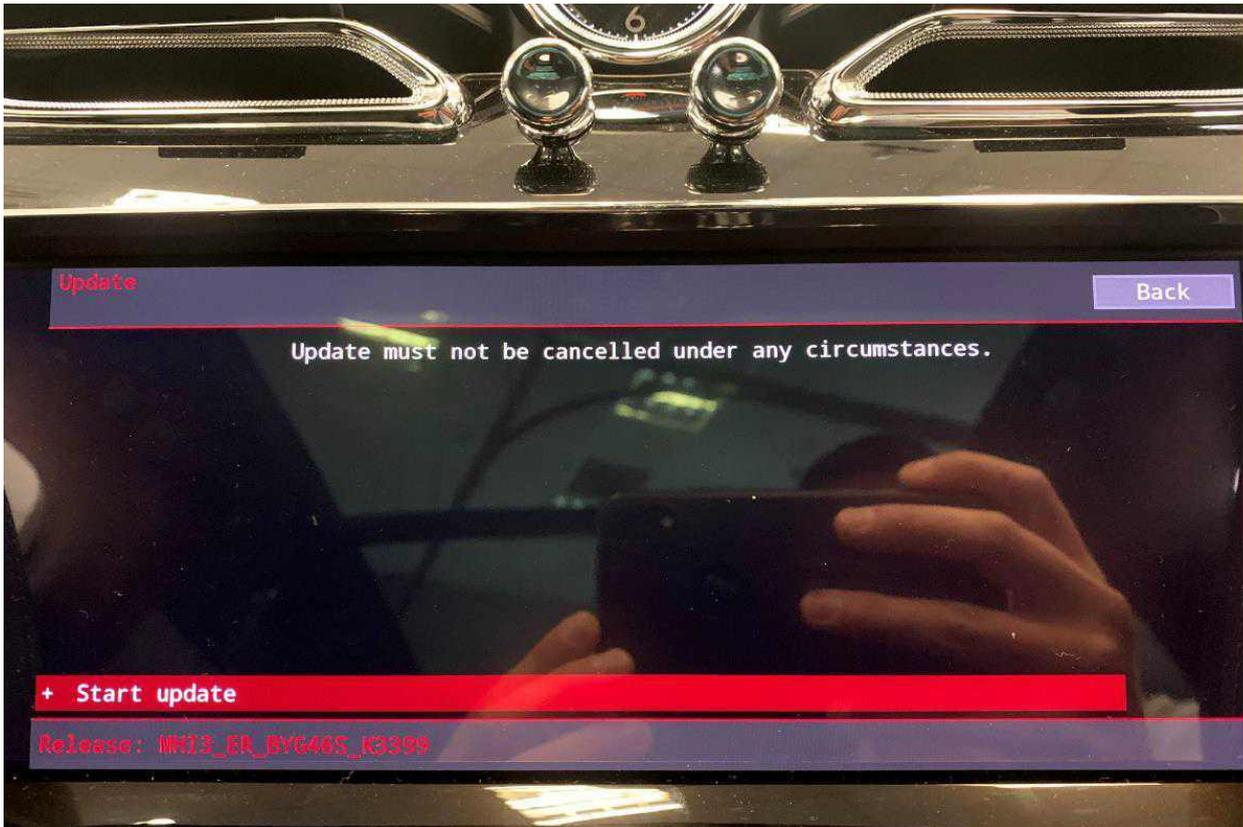

Figure 8
- Select 'Start update' again. (Figure 8)